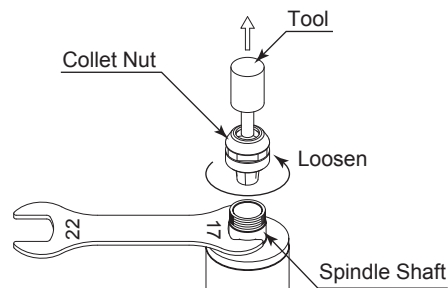

Fig. 5
- ① Remove the tool according to the section "7. CHANGING THE CUTTING TOOL" procedure above and remove collet nut assembly. (Fig. 5)